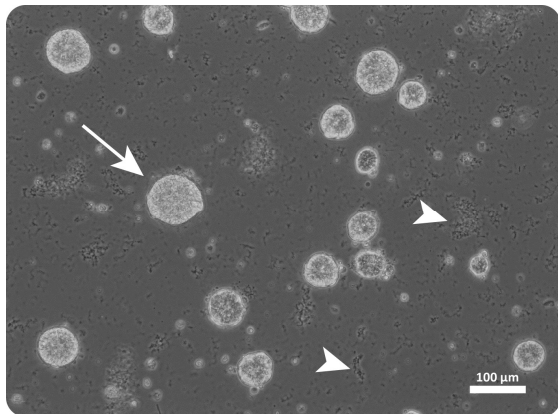

Figure 1. Human ES Cells Reverted to a Naïve-Like State
- Day 7+ or 8+:** Perform a full medium change every second day. Visually assess cultures to monitor growth; they are ready for passaging when colonies are 50 - 100 µm diameter. See Figure 1 for an image of ES cells reverted after one passage.